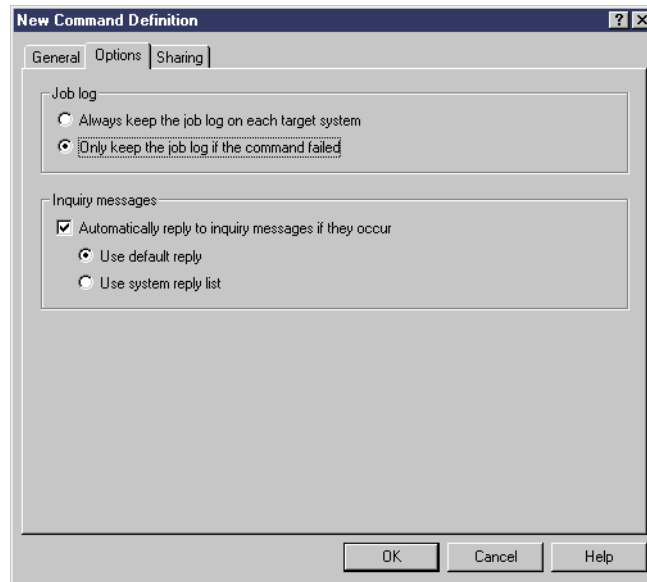

Figure 21. Options tab for New Command Definition
5. To specify options concerning the job log or inquiry messages, click the **Options** tab. Use the Options page to specify how you want to handle the job log and inquiry messages when this command definition is run. Figure 21 on page 41 shows the Options tab. If you uncheck the *Automatically reply to inquiry messages if they occur* box and the command needs a reply, it waits for your response. You have to access the endpoint systems with Operations Navigator to reply to the message.